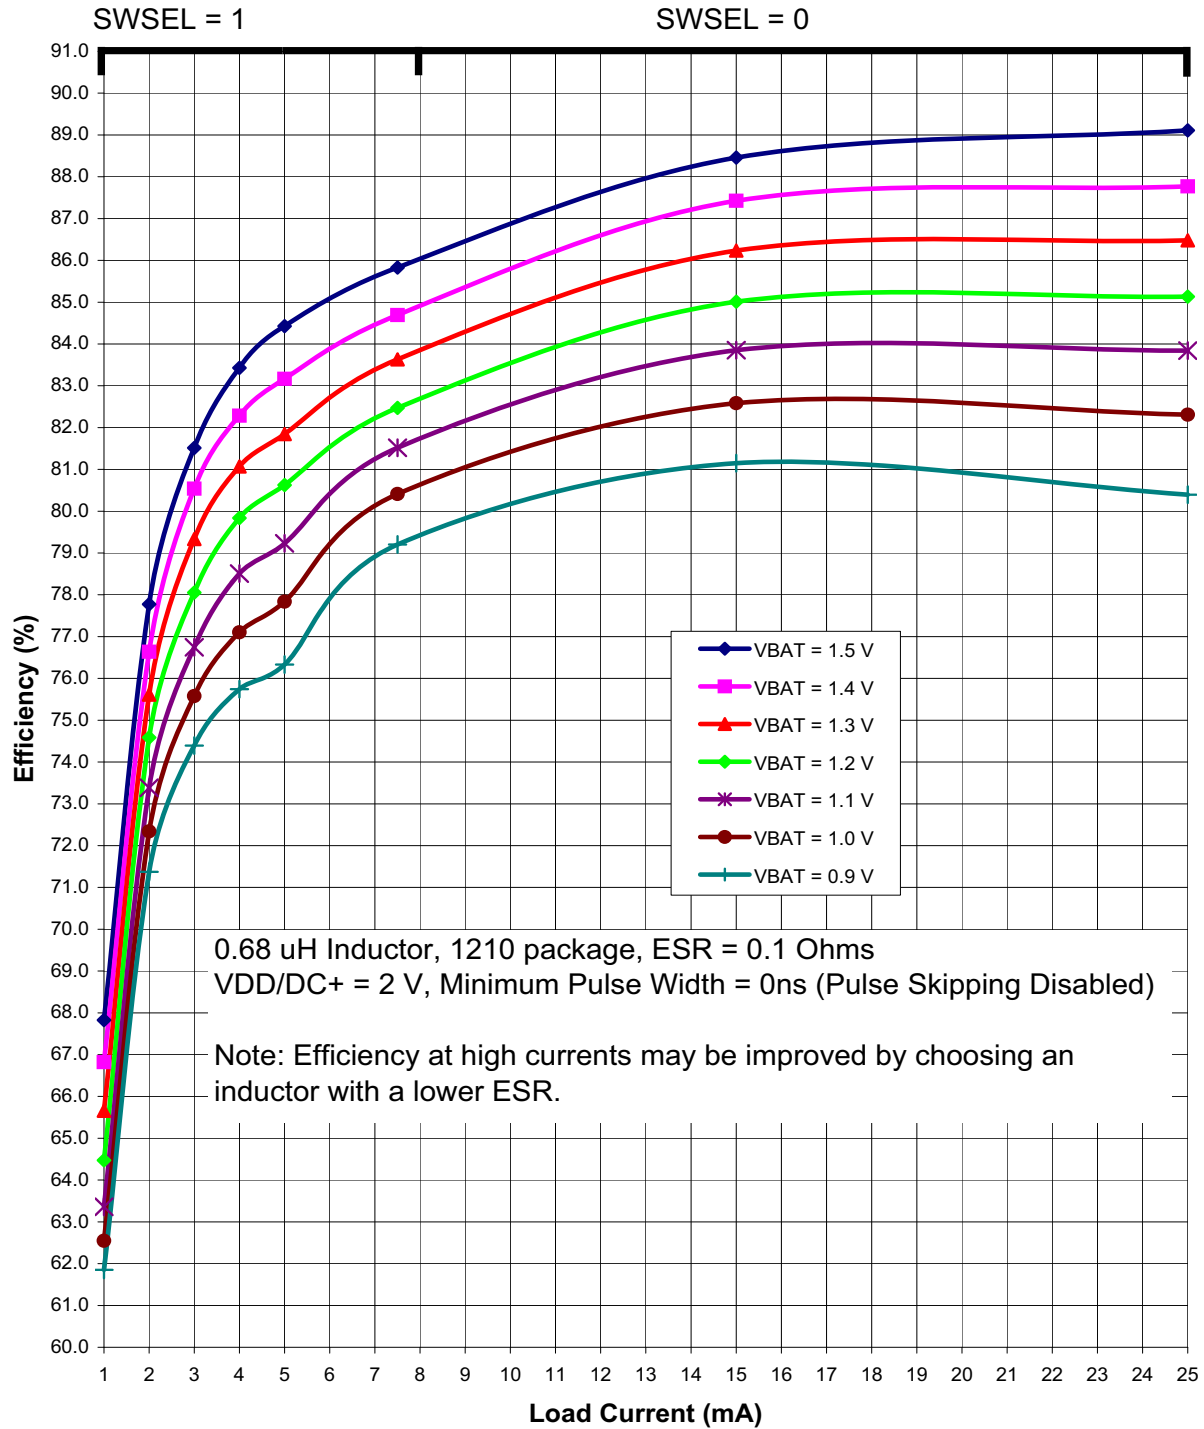
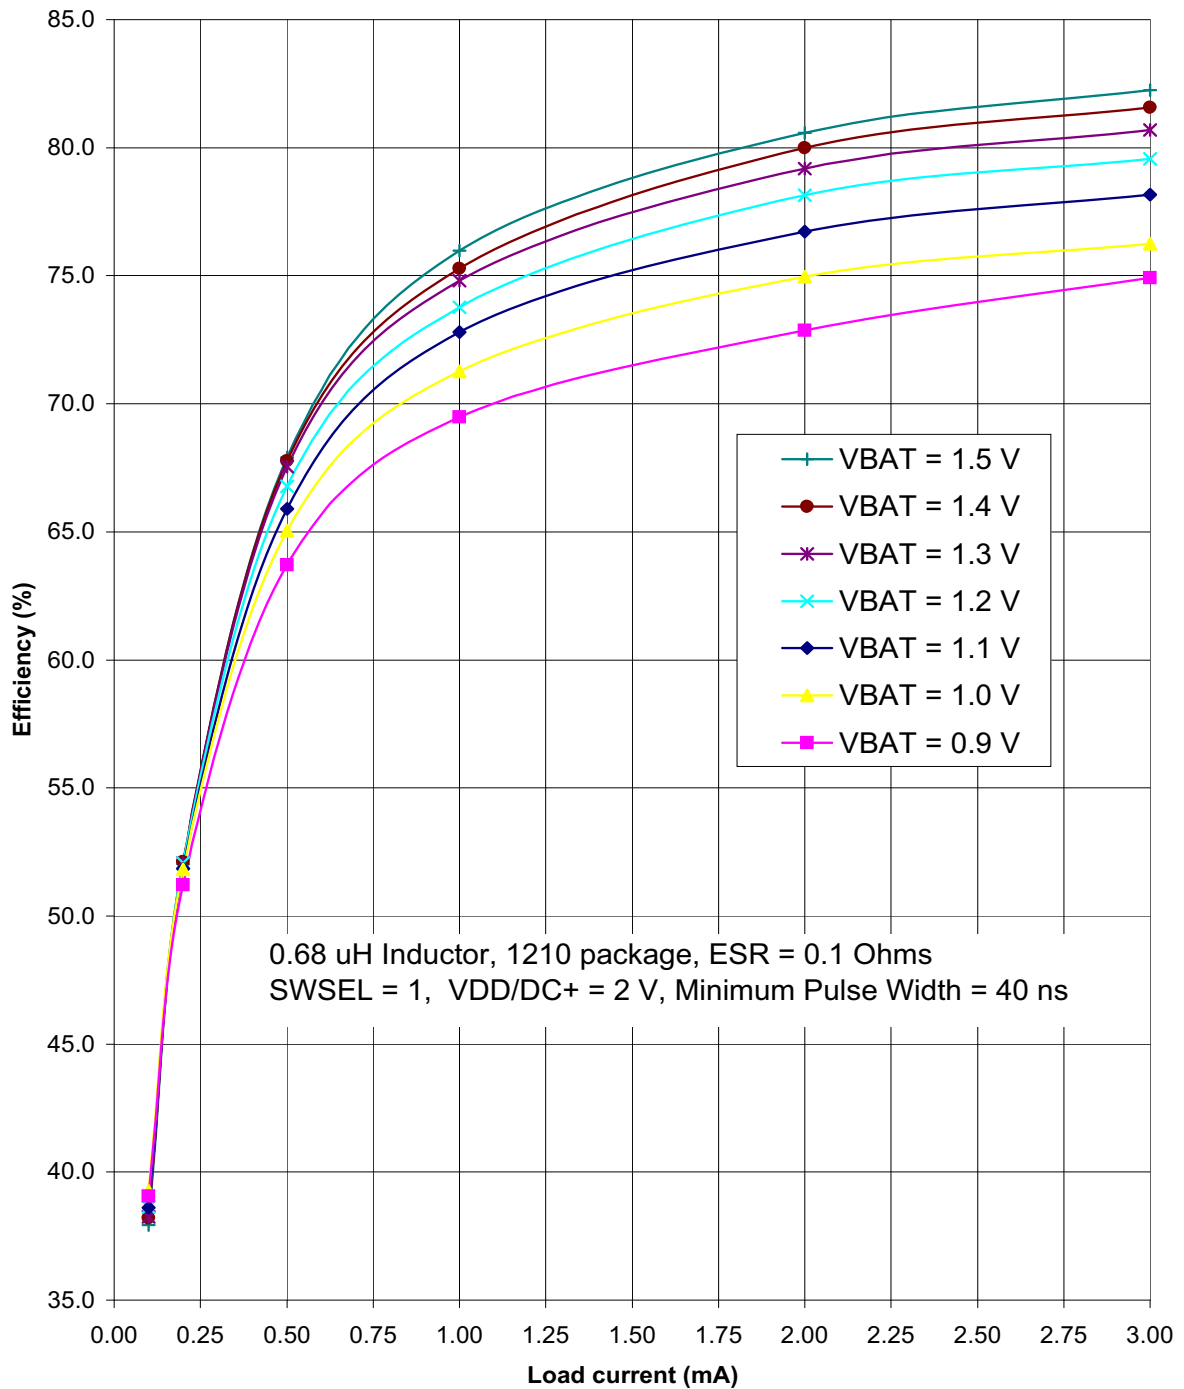

Figure 4.3. Typical DC-DC Converter Efficiency (High Current, VDD/DC+ = 2 V)
Figure 4.5. Typical DC-DC Converter Efficiency (Low Current, VDD/DC+ = 2 V)
<ol style="list-style-type: none"> Based on device characterization data; Not production tested. SYSCLK must be at least 32 kHz to enable debugging. Digital Supply Current depends upon the particular code being executed. The values in this table are obtained with the CPU executing an "sjmp \$" loop, which is the compiled form of a while(1) loop in C. One iteration requires 3 CPU clock cycles, and the Flash memory is read on each cycle. The supply current will vary slightly based on the physical location of the sjmp instruction and the number of Flash address lines that toggle as a result. In the worst case, current can increase by up to 30% if the sjmp loop straddles a 64-byte Flash address boundary (e.g., 0x007F to 0x0080). Real-world code with larger loops and longer linear sequences will have few transitions across the 64-byte address boundaries. Includes oscillator and regulator supply current. IDD can be estimated for frequencies ≤ 14 MHz by simply multiplying the frequency of interest by the frequency sensitivity number for that range, then adding an offset of 90 μA. When using these numbers to estimate I_{DD} for > 14 MHz, the estimate should be the current at 25 MHz minus the difference in current indicated by the frequency sensitivity number. For example: $V_{DD} = 3.0$ V; $F = 20$ MHz, $I_{DD} = 4$ mA – $(25 \text{ MHz} - 20 \text{ MHz}) \times 0.102 \text{ mA/MHz} = 3.5$ mA assuming the same oscillator setting. The supply current specifications in Table 4.2 are for two cell mode. The VBAT current in one-cell mode can be estimated using the following equation: $\text{VBAT Current (one-cell mode)} = \frac{\text{Supply Voltage} \times \text{Supply Current (two-cell mode)}}{\text{DC-DC Converter Efficiency} \times \text{VBAT Voltage}}$ <p>The VBAT Voltage is the voltage at the VBAT pin, typically 0.9 to 1.8 V. The Supply Current (two-cell mode) is the data sheet specification for supply current. The Supply Voltage is the voltage at the VDD/DC+ pin, typically 1.8 to 3.3 V (default = 1.9 V). The DC-DC Converter Efficiency can be estimated using Figure 4.3–Figure 4.5.</p> Idle IDD can be estimated by taking the current at 25 MHz minus the difference in current indicated by the frequency sensitivity number. For example: $V_{DD} = 3.0$ V; $F = 5$ MHz, Idle $I_{DD} = 2.1$ mA – $(25 \text{ MHz} - 5 \text{ MHz}) \times 0.079 \text{ mA/MHz} = 0.52$ mA.